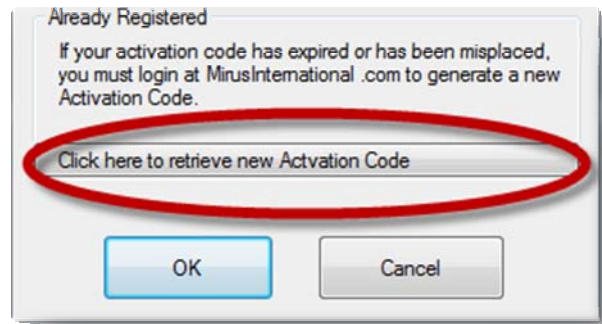

Figure 3-7: The SOLV™ Activation window. The red circle indicates the button that will redirect you to the MIRUS Software Downloads page.
2. Select **Click here to retrieve new Activation Code**, located at the bottom of the *SOLV™ Activation* window (see Figure 3-7).